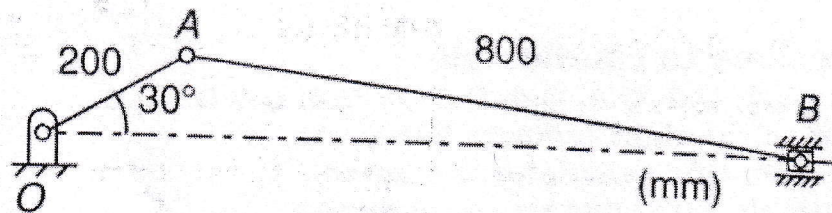

Figure 3
- b) For the single slider crank mechanism illustrated in figure 3, [6]